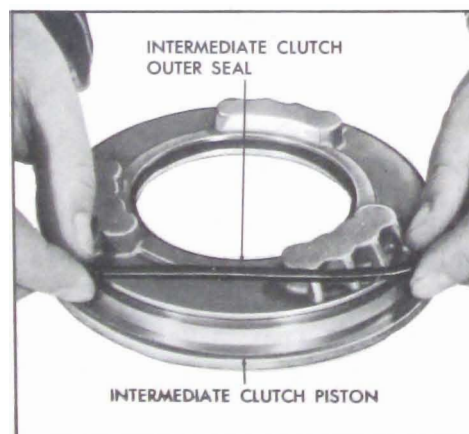

Figure 5-670
2. Install new outer seal. See Figure 5-670.